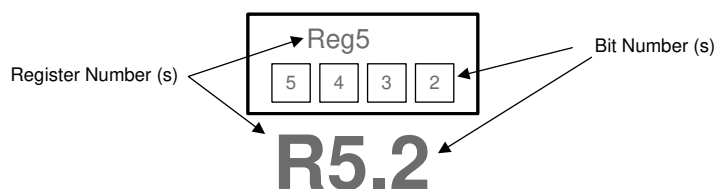

图 8-2. LMK03328 Register Reference Format
图 8-2 shows the method that this document employs to refer to an individual register bit or a grouping of register bits. If a drawing or text references an individual bit the format is to specify the register number first and the bit number second. The LMK03328 contains 124 registers that are 8 bits wide. The register addresses and the bit positions both begin with the number zero (0). A period separates the register address and bit address. The first bit in the register file is address 'R0.0,' which means that the bit is located in Register 0 and is bit position 0. The last bit in the register file is address 'R31.7' referring to the 8th bit of register address 31 (the 32nd register in the device). 图 8-2 lists specific bit positions as a number contained within a box. A box with the register address encloses the group of boxes that represent the bits relevant to the specific device circuitry in context.